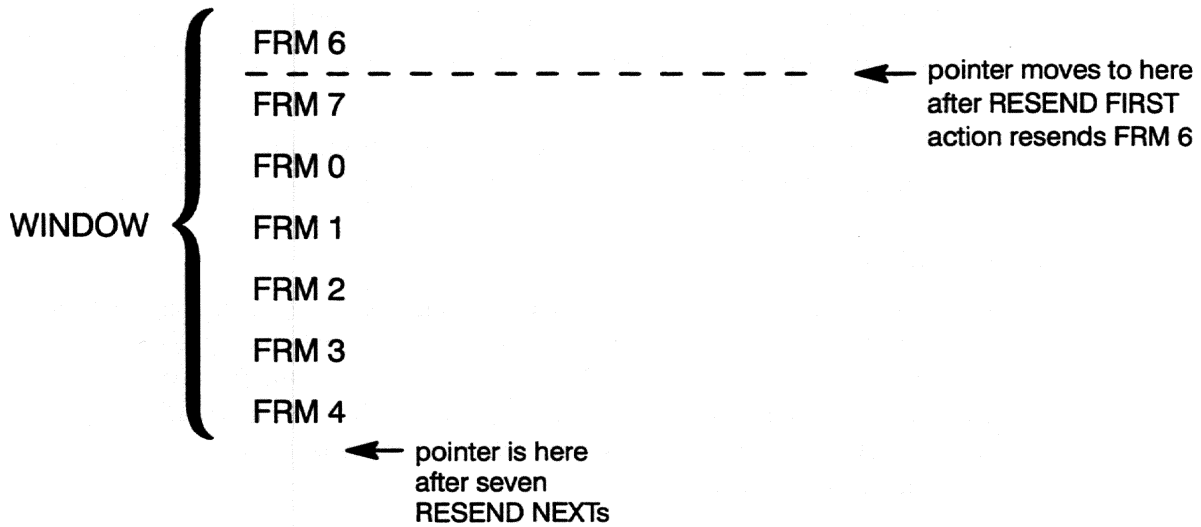

Figure 37-29 *RESEND FIRST* resets the pointer, allowing you to resend the entire window repeatedly.
1. *Resend first/next.* RESEND FIRST means that the resend-pointer is reset to the beginning of the window, the first frame in the window is resent, and the pointer is advanced to the second position in the window. The effect of a RESEND FIRST action is illustrated in Figure 37-29.